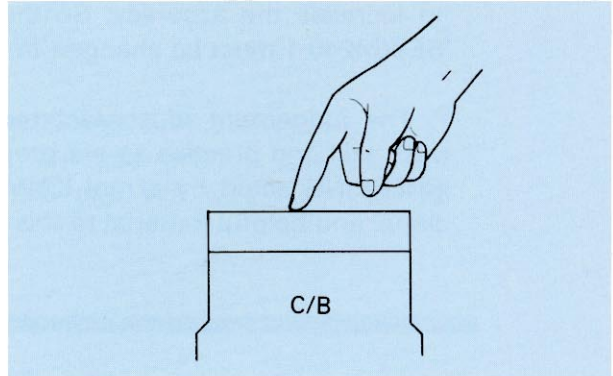

Fig. 1
- (2) Use the tip of your finger to dab paint on about 20 places on the surface of the cylinder barrel. (See Fig. 1)